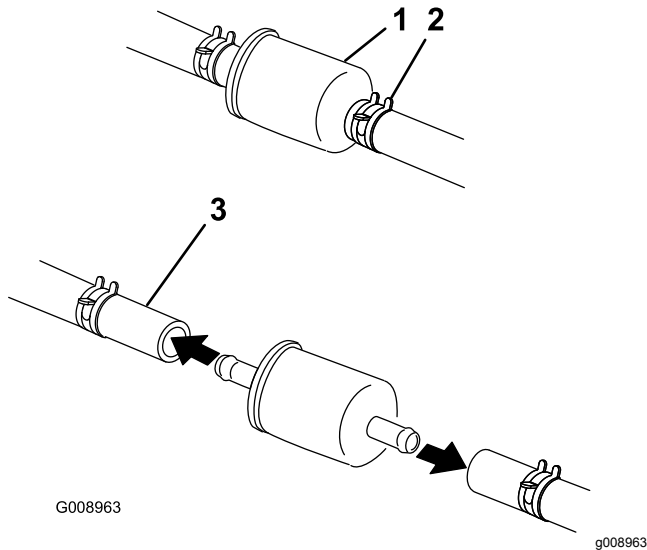

Figure 69
5. Replace the fuel filter (Figure 69).